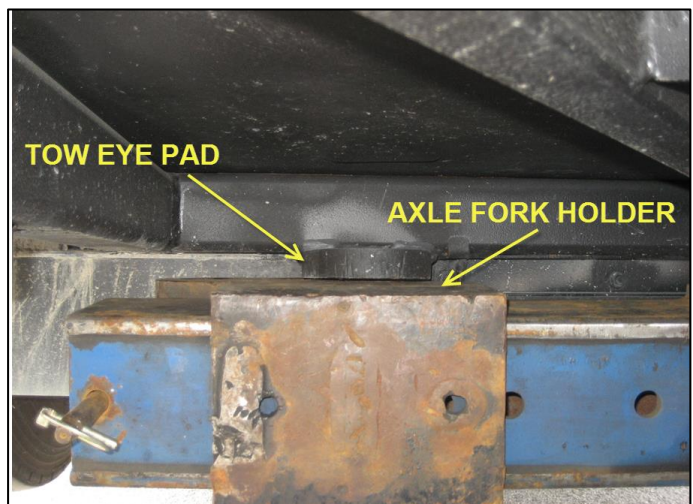

FIGURE 33
3. Deploy the tow truck stinger arm, placing the axle fork holders under the tow eye pads (Figure 33).